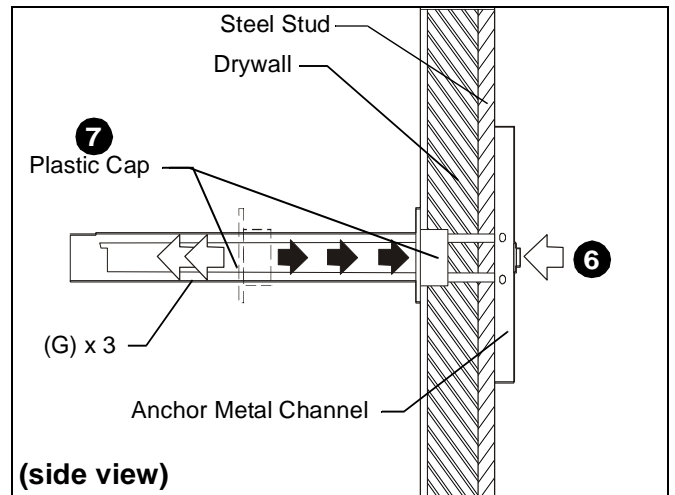

Figure 7
6. Holding plastic straps on anchor (G), pull anchor away from wall until channel rests flush behind wall making sure anchor channel is positioned vertically on stud. (See Figure 7)
7. Slide plastic cap on anchor (G) towards wall until flange of cap is flush with wall. (See Figure 7)